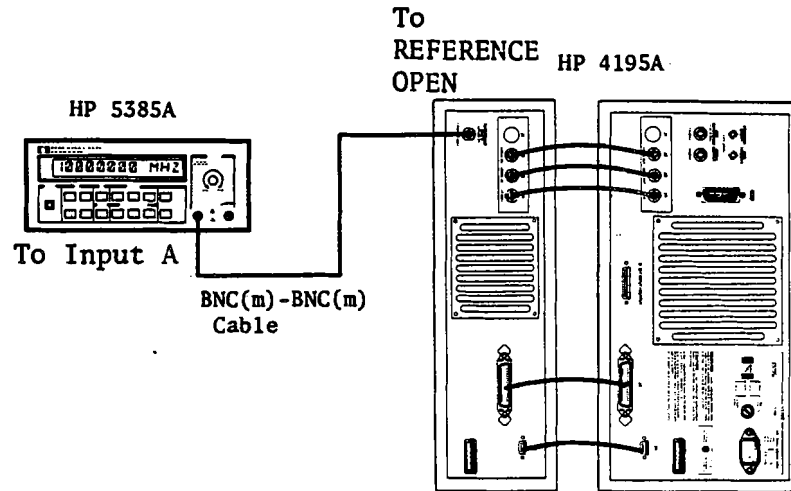

Figure 3-8. High Stability Oscillator Frequency Adjustment Setup
2. Connect the equipment as shown in Figure 3-8.